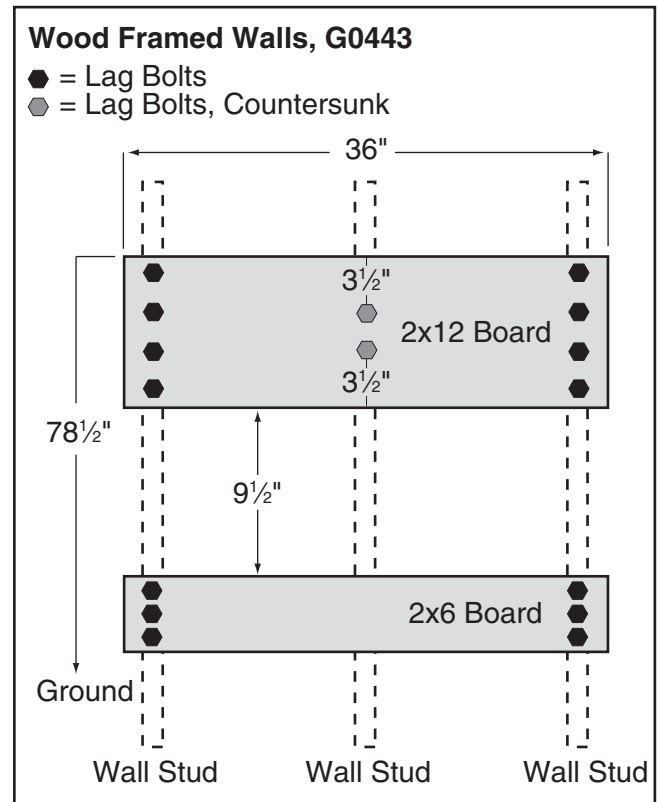

Figure 8. G0443 wall mounting board layout.
1. Secure the wall mounting boards to the wall, using the applicable layout diagrams for your machine and wall type shown in **Figure 8**.